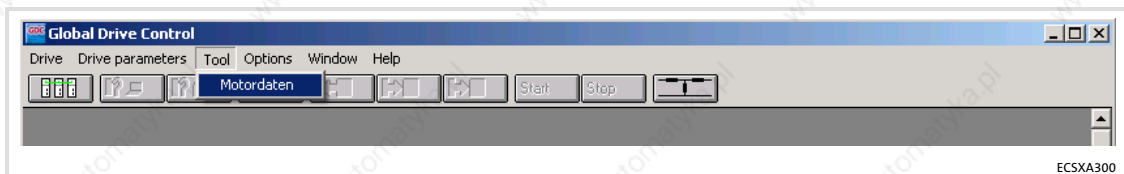

Fig. 6-2 GDC view: menu bar and tool bar
1. Go to the GDC menu bar and select the **Tool** → **Motor data** menu item or click the button with the voltage divider symbol in the tool bar (rightmost in Fig. 6-2):